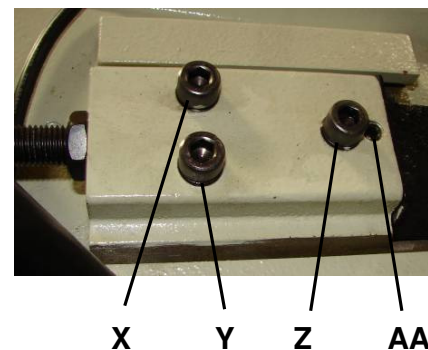

figure 7
3. Loosen the hex socket cap screws (**X**, **Y**, & **Z**) (see figure 7)